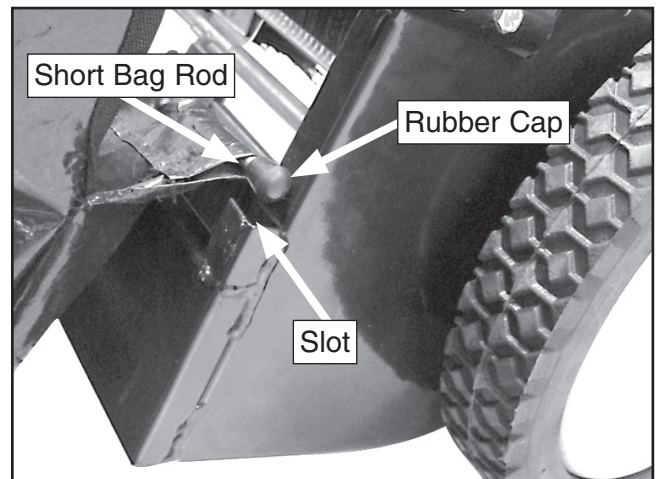

Figure 6. Securing short bag rod.
4. Attach the rubber caps to the end of the short bag rod and insert the rod into the slot in the sweeper assembly, as shown in **Figure 6**.